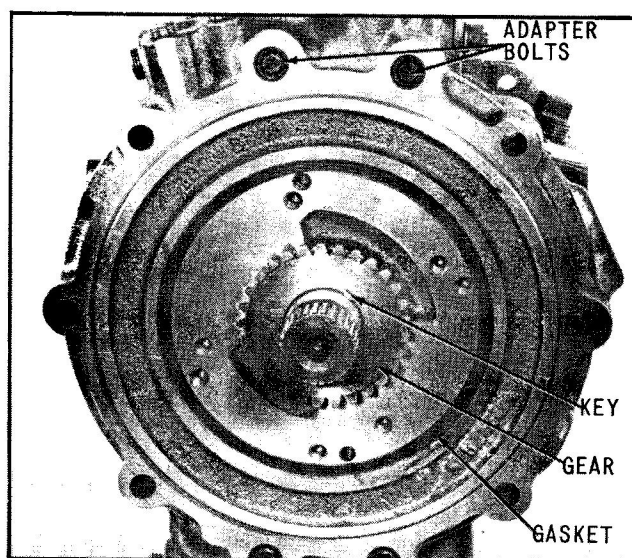

Fig. 55 Install Pump
26. Install pump drive key into groove in input shaft and place smaller pump gear on shaft, aligning key with gear slot, (Fig. 55).